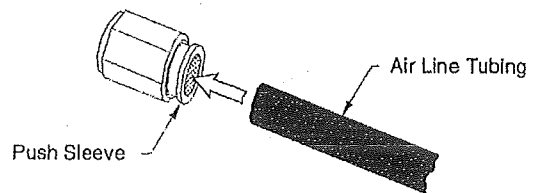

Fig. 11
H. Complete multi-position locking leg piping to front and rear jack. See piping detail, Fig. 11.